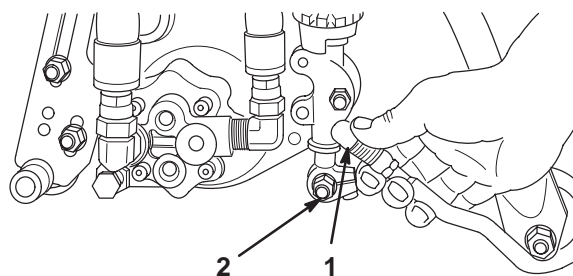

Figure 7
5. Slide the sleeve back on the ball joint and rotate the pull arm down so the socket fits over the ball stud. Release the sleeve so it slides over the stud and locks the assemblies together (Fig. 7).